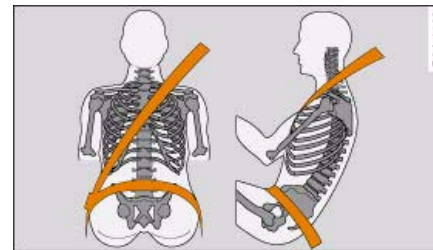

Fig. 210 Adjusting shoulder and lap belt ▶
- The diagonal part of the belt should never be positioned across the neck, but roughly over the centre of the shoulder; it should fit closely against the upper part of the body. The lap part of the belt must be worn tightly across the hips, and not over the abdomen ⇒ *page 197, fig. 210*. Pull the belt tight if necessary to take up any slack.